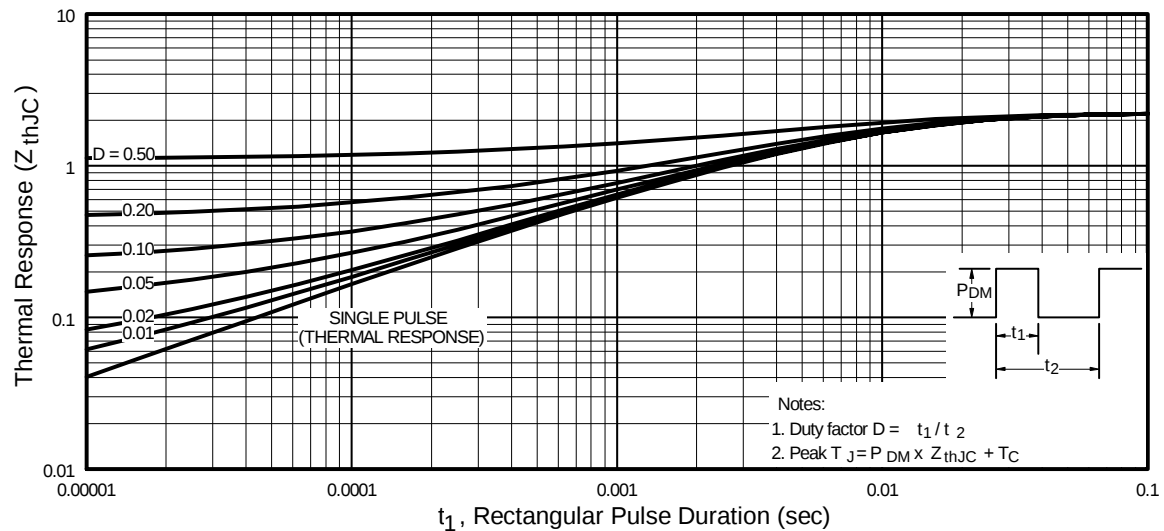

Fig 11. Maximum Effective Transient Thermal Impedance, Junction-to-Case
① Repetitive rating; pulse width limited by max. junction temperature. (See fig. 11)
② $V_{DD} = 15V$, starting $T_J = 25^\circ\text{C}$, $L = 470\mu H$